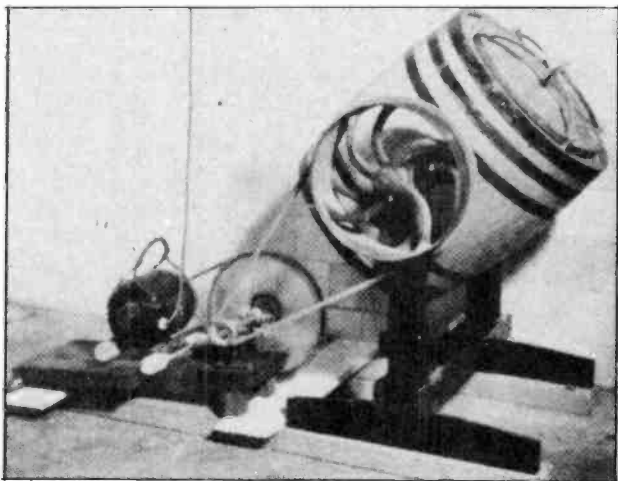

Figure 31.—A portable motor operating a barrel churn by means of a simple speed reducer.
Make a similar holder for each piece of equipment on which the portable motor is to be used. See figures 31, 32, and 33.
used, fitting platform with threaded bolts on which the base of the speed reducer may be placed and fastened down either with winged nuts or regular square nuts. See figure 31.
**Speed of operation.**—It is important that equipment operate at its proper speed. This speed can be determined for many items by referring to the Pulley Selection Chart. (See fig. 34.) Since motors operate at a much higher rate of speed than do barrel churns, ice-cream freezers, and similar farm devices, a speed reducer, such as shown in figure 31, operating a churn, must be used. By reducing the speed the mechanical advantage is increased, or in other words the motor is given the capacity to pull heavier loads.